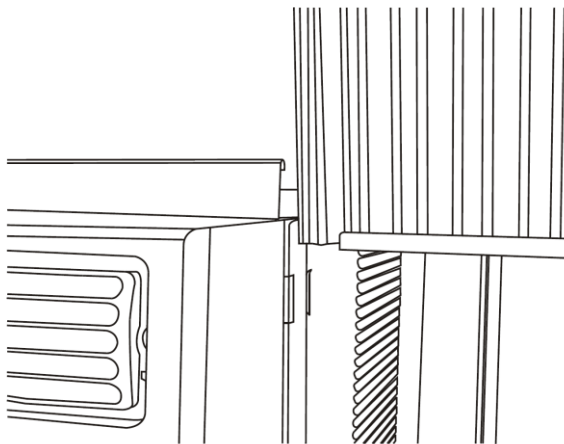

FIG.2
- Slide the free end and (I section) of the accordion panel into the cabinet as shown in Fig 2. Slide the panel down. Be sure to leave enough space to slip the top and bottom of the frame into the rails on the cabinet.